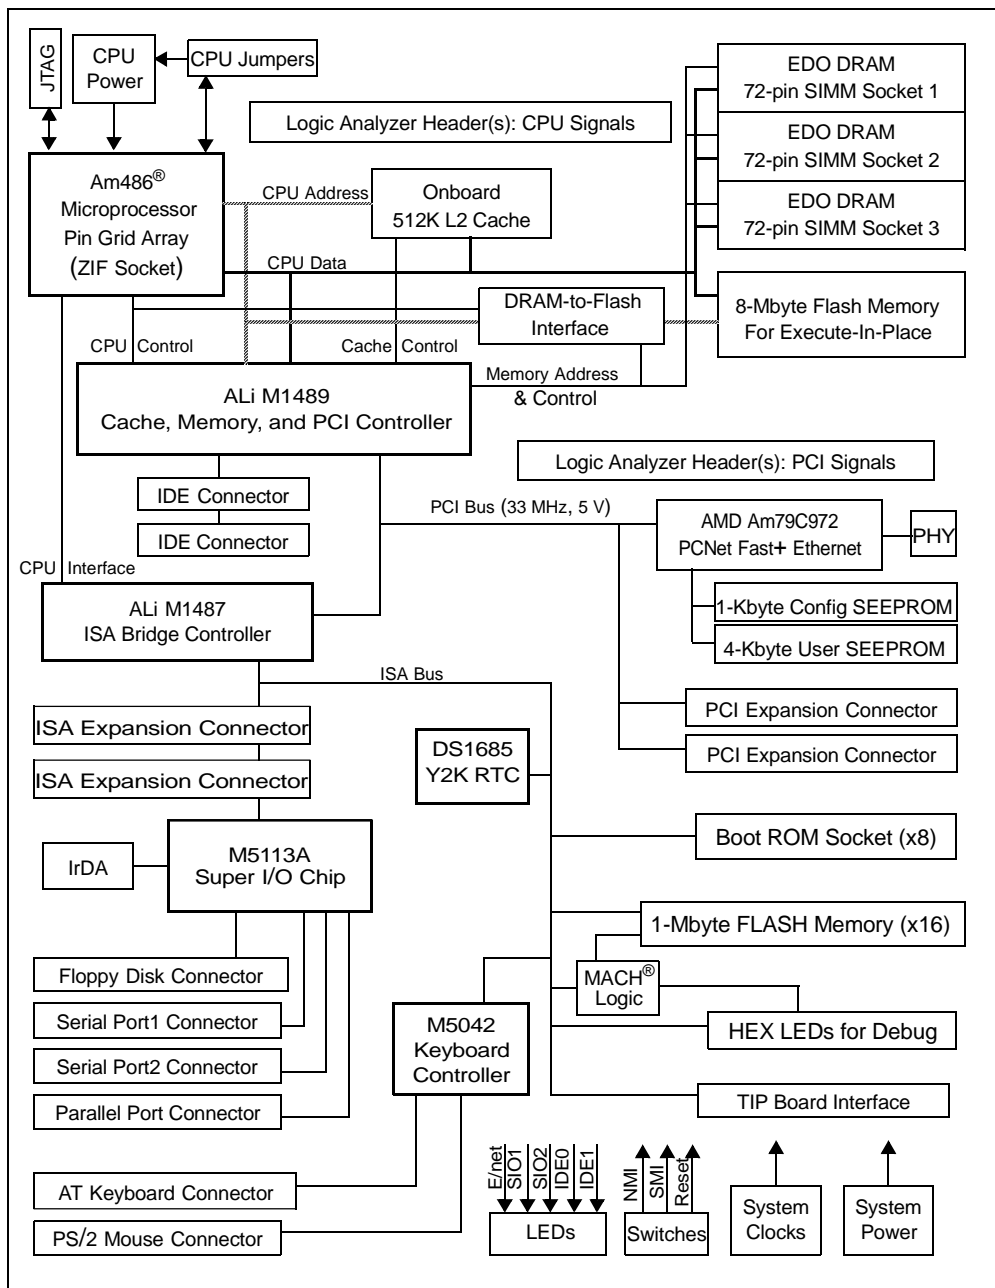

Figure 2-2. PCI CDP Block Diagram
- Figure 2-2 on page 2-4 is the block diagram for the platform.